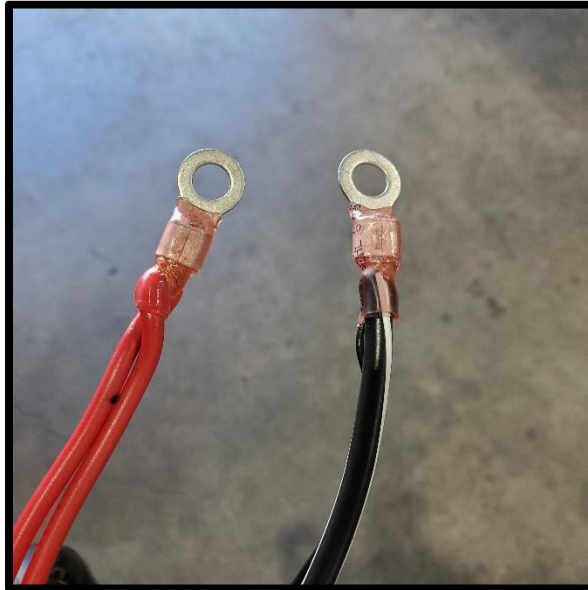

Figure 26
- 5-A) Attach the two (2) provided wire connectors to the main ARB harness as shown in **Figure 26**. Both positive wires (**red**) should be placed in one of the provided connectors. Use the second connector to connect both negative wires (**black**). Crimp and use a heat source to seal each of them.